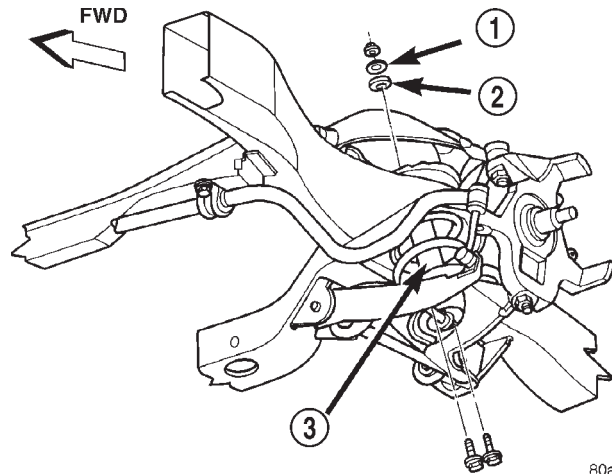

Fig. 3 Front Shock Absorber
(1) Remove the upper shock nut, retainer and grommet from the shock absorber stud (Fig. 3).
(2) Raise and support the vehicle.
(3) Remove the lower mounting bolts and remove shock absorber through the lower suspension arm (Fig. 3).